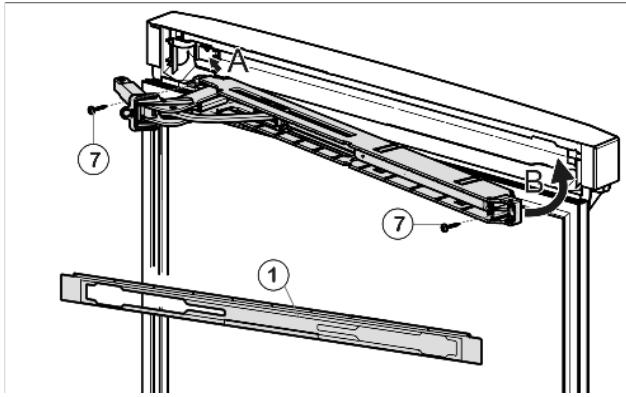

Fig. 41
- ▶ With the hinge of the upper soft stop unit facing the door hinge side, engage the soft stop unit (A) and swivel inwards (B).
- ▶ Tighten soft stop unit (2 x Torx 15) Fig. 41 (7).